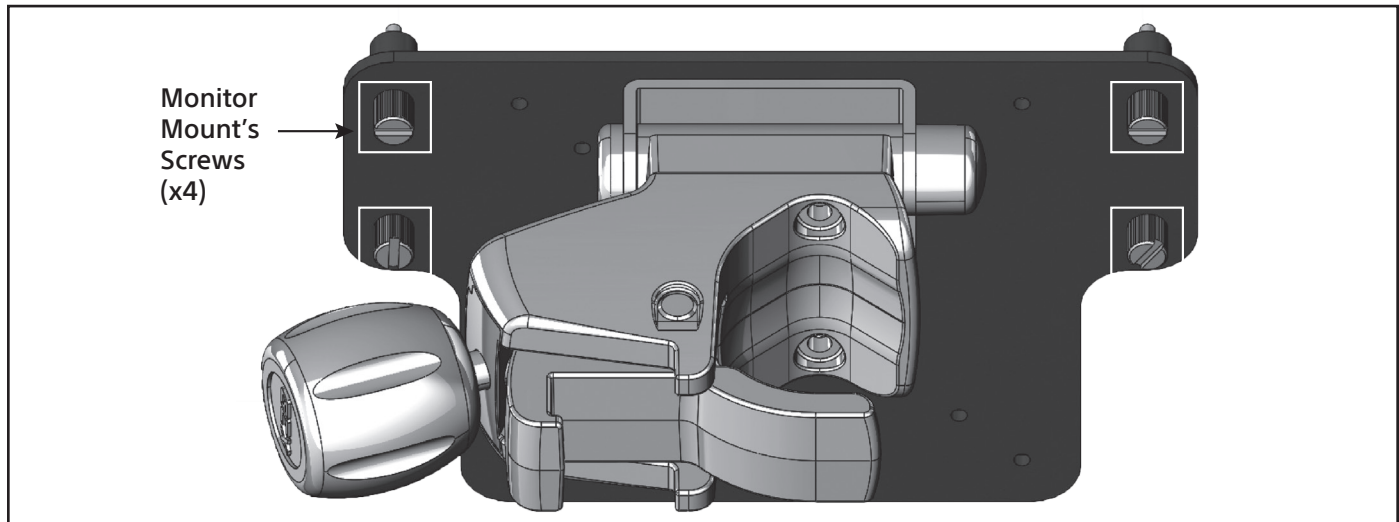
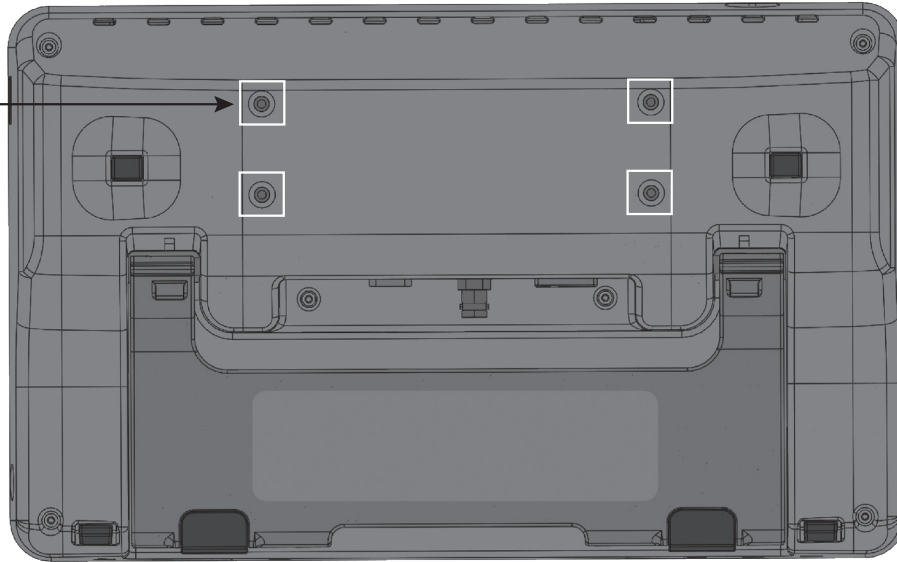

Figure 12. Align Monitor Mount's Screws
Figure 13. Monitor Tapped Holes
3. Align the Monitor mount's screws (Figure 12) with the tapped holes on the back of the EXALT Monitor (Figure 13).